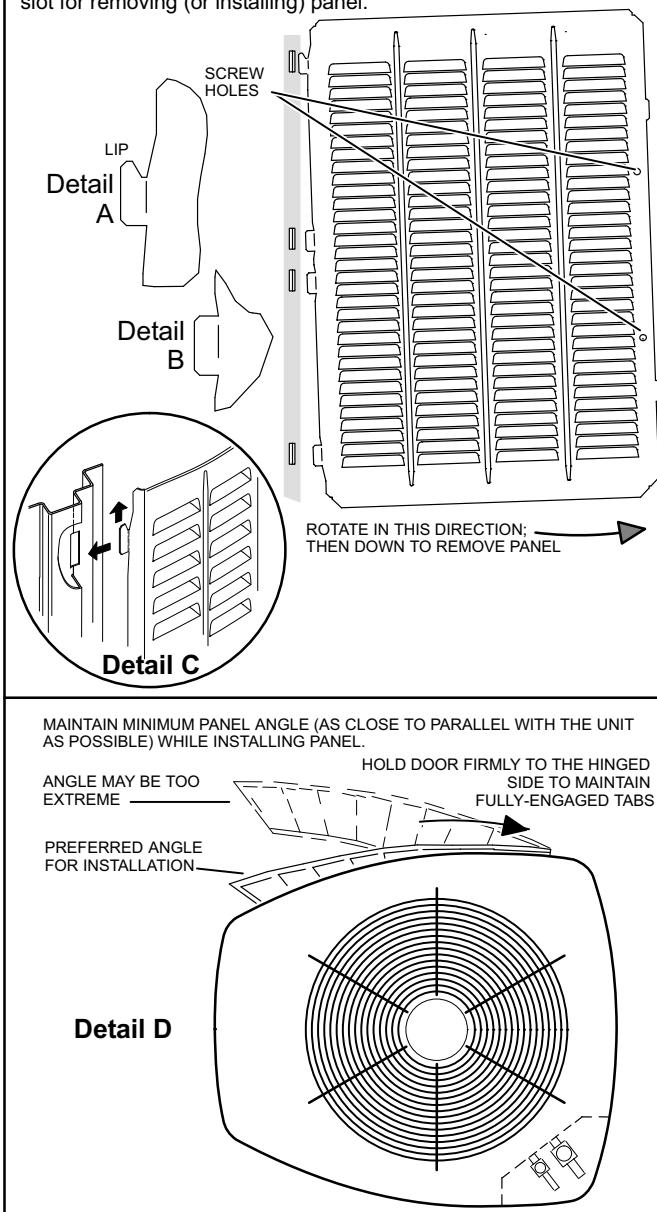

FIGURE 2
1. Remove 2 screws, allowing the panel to swing open slightly (see figure 2).
2. **Hold the panel firmly throughout this procedure.** Rotate bottom corner of panel away from hinge corner post until lower 3 tabs clear the slots (see figure 2, Detail B).
3. Move panel down until lip of upper tab clears the top slot in corner post (see figure 2, Detail A).
Position and Install Panel—Position the panel almost parallel with the unit (figure 2, Detail D) with the “screw side” as close to the unit as possible. Then, in a continuous motion: Slightly rotate and guide the lip of top tab inward (figure 2, Details A and C); then upward into the top slot of the hinge corner post.